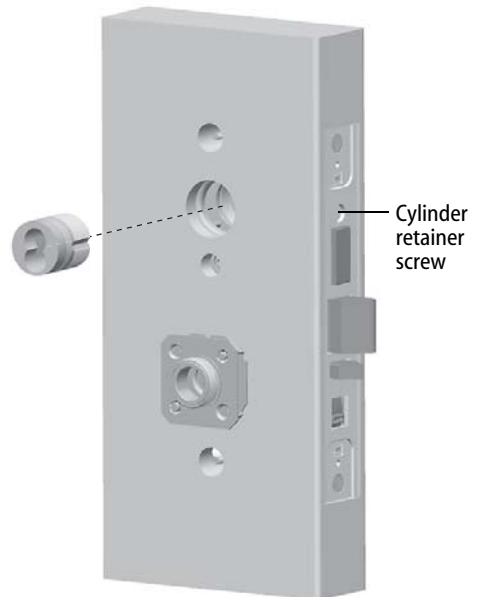

Figure 12 Installing the concealed cylinder
- 1 Use a cylinder wrench to thread the cylinder into the mortise case so that the groove around the cylinder is even with the door surface as shown in Figure 12.
- 3 Insert the control key into the core and rotate the key 15 degrees to the right.